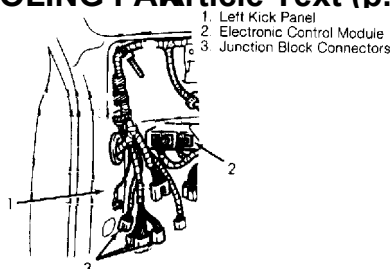

Fig. 3: Locating Cooling Fan Junction Block
7) Using test light, probe cooling fan thermostat connector Black/White wire. If test light does not glow, repair open in Black/White wire between cooling fan thermostat and junction block connector. Junction block is located behind left side of instrument panel. See Fig. 3. If test light glows, check for voltage at fan relay connector terminal No. 1 (Blue wire). Go to COOLING FAN RELAY.